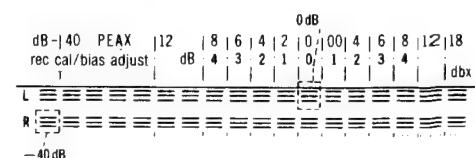

Fig. 24
6. At this time, check that  $-40\text{dB}$  indicator is dimmed (intermediate brightness between full brightness and light-out: See fig. 24).
9. At this time, check that 0dB indicator is dimmed (intermediate brightness between full brightness and light-out (See fig. 24).